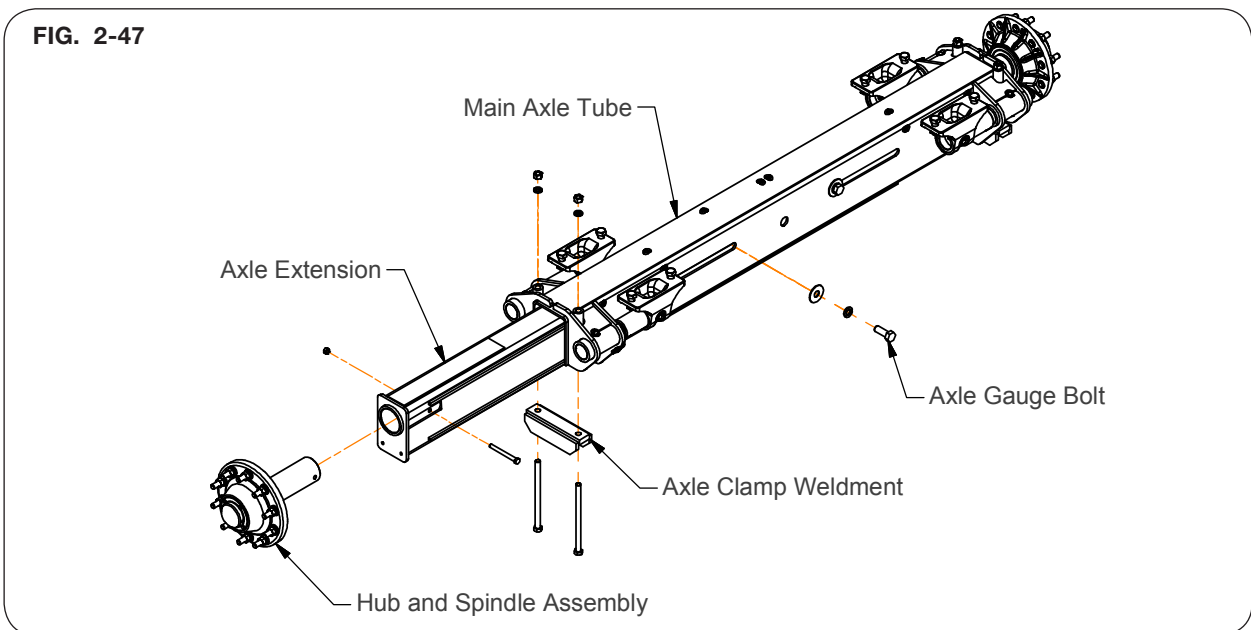

FIG. 2-47
5. Tighten axle gauge bolts followed by axle clamp bolts, refer to MAINTENANCE section for proper torque specifications. (Fig. 2-47)